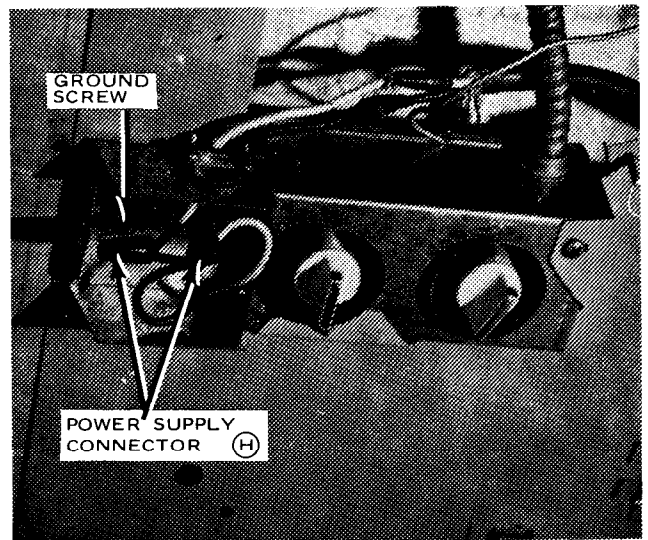

FIGURE 10
- Connect the 115 volt, 60 cycle supply. Figure 10.